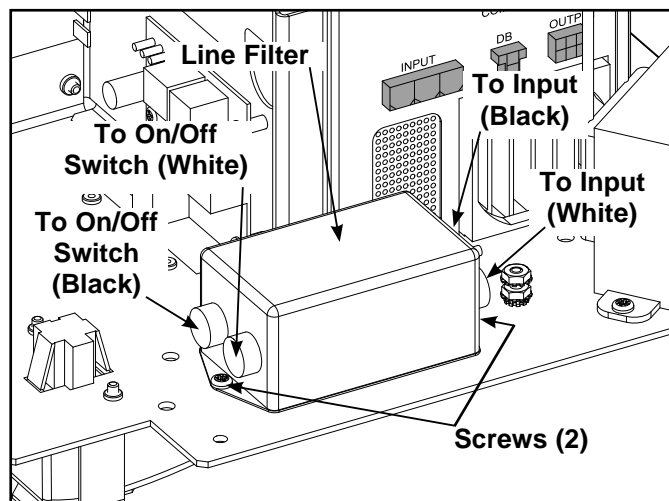

Figure 22
- Using a Phillips screwdriver, remove the two screws that hold the line filter to the base plate. See Figure 22.
- Using a Phillips screwdriver, secure the two screws that hold the line filter to the base plate. See Figure 22.
- Connect the white cable from the On/Off switch to the terminal on the line filter. See Figure 22.
- Connect the black cable from the On/Off switch to the terminal on the line filter. See Figure 22.
- Connect the white cable from the motor controller input to the terminal on the line filter. See Figure 22.
- Connect the black cable from the motor controller input to the terminal on the line filter. See Figure 22.